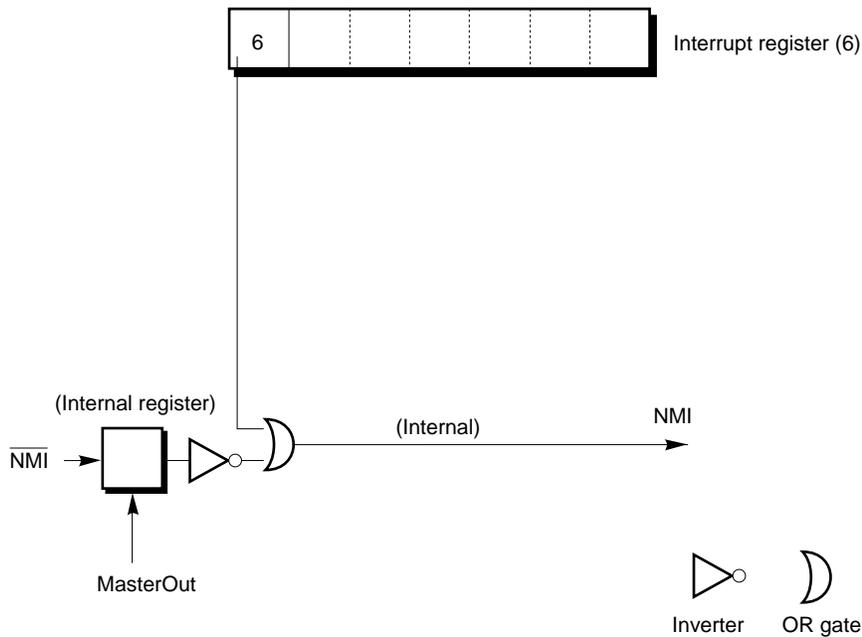

Figure 12-1 VR4100 Nonmaskable Interrupt Signal
The nonmaskable interrupt is signaled by asserting the  $\overline{\text{NMI}}$  pin (low), forcing the processor to branch to the Reset Exception vector. This pin is latched into an internal register by the rising edge of **MasterOut**, as shown in Figure 12-1. An NMI can also be set by an external write through the **SysAD** bus. On the data cycle, **SysAD (22)** acts as the write enable for **SysAD (6)**, which is the value to be written as the interrupt.
Figure 12-1 shows the internal derivation of the **NMI** signal. The  $\overline{\text{NMI}}$  pin is latched into an internal register by the rising edge of **MasterOut**. Bit 6 of the *Interrupt* register is then ORed with the inverted value of  $\overline{\text{NMI}}$  to form the nonmaskable interrupt.